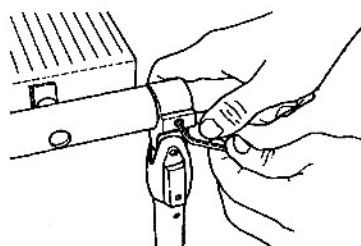

Fig. A-27
32. Use a 5/32" Allen wrench to tighten the collar's setscrew, as seen in Fig. A-27.